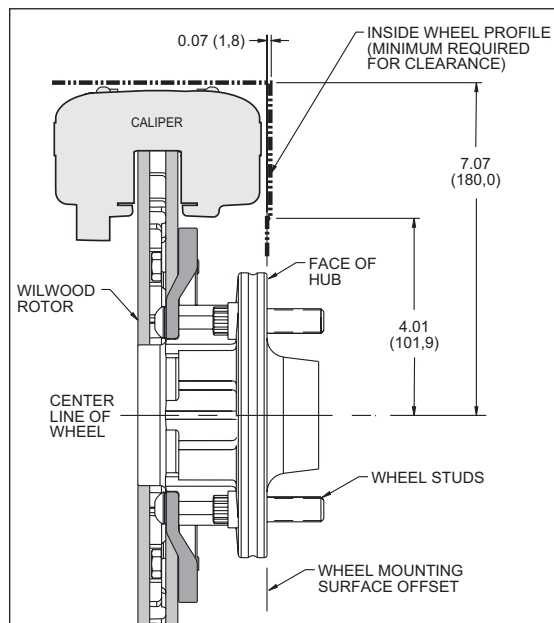

Figure 3. Wheel Clearance Diagram
- Review the wheel clearance diagram (figure 3, page 5) to verify that there is adequate clearance with the wheels you will be using with the installation.